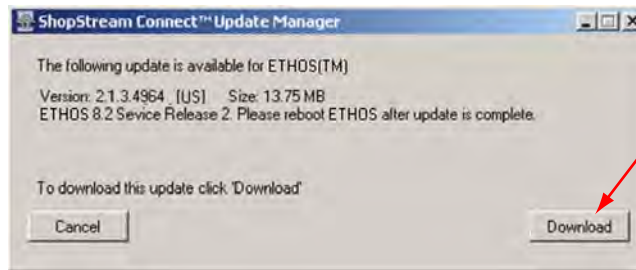

Figure B-13 *Sample update available screen*
- b. If an upgrade is available, a screen similar to Figure B-13 displays. Select **Download** to begin the upgrade process and continue to Step 6.